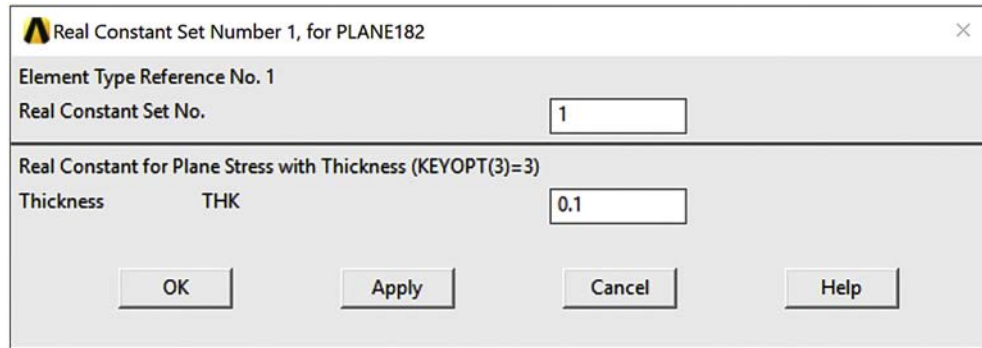

Figure 4-2-2 Real Constant Dialog Box.
- For “Thickness THK” enter 0.1 (Figure 4-2-2)